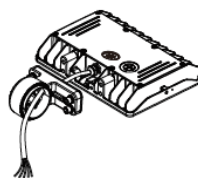

Fig. 10
1. Separate bracket in two pieces (Fig. 10).